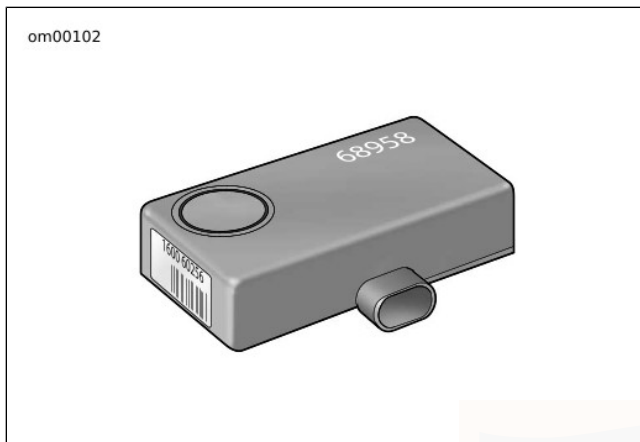

Figure 34. Siren
- See Figure 34. If the siren is armed and the internal siren battery is dead, shorted, disconnected, or has been charging for a period longer than 24 hours, the siren will respond with three chirps on arming instead of two.